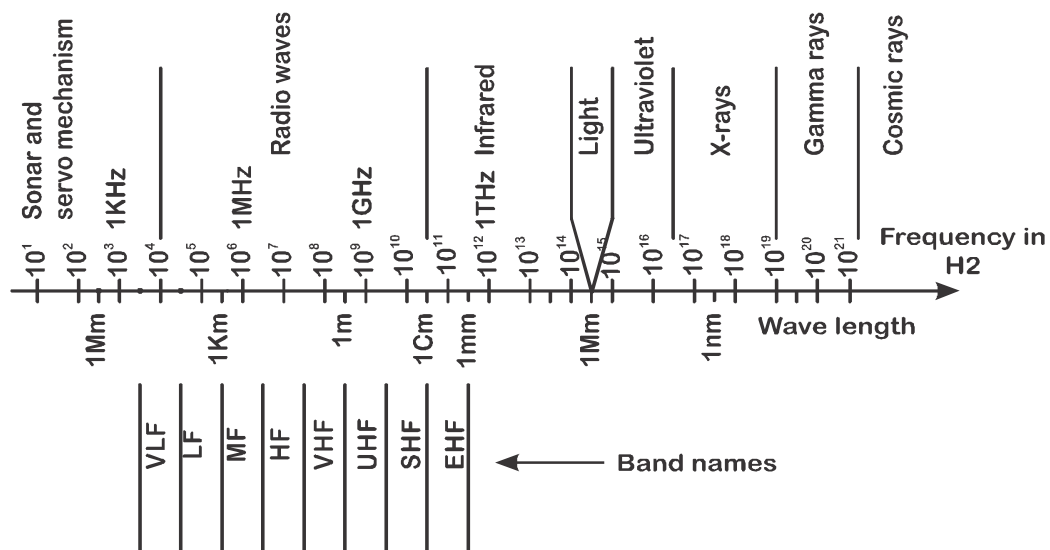

Fig. 2.1 Electro magnetic frequency system
- ❖ The total electromagnetic frequency spectrum shown in fig.2.1 shows the approximate locations of various services.